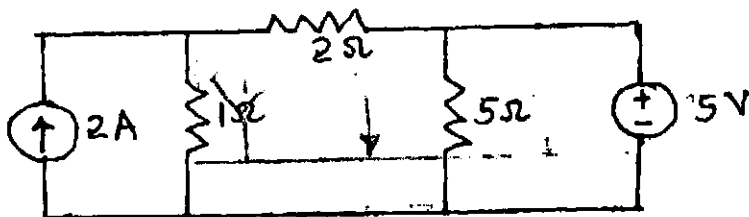

Fig. 1
1. a) In the circuit of Fig. 1, determine the current through the 5Ω resistor using Thevenin's theorem. (7 + 7)